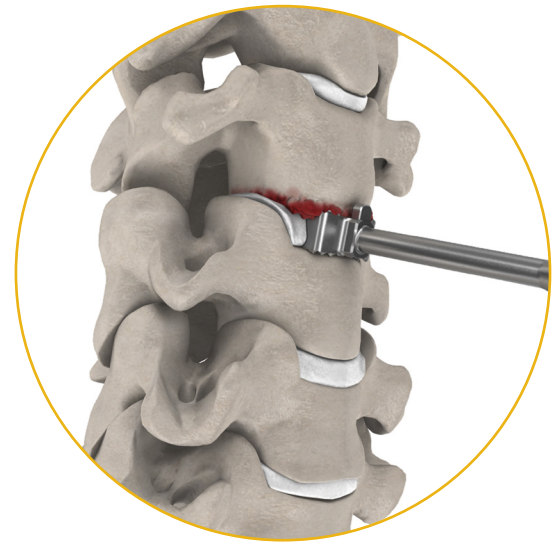

Figure 1
- a. After preparation of the disc space is complete, insert a trial (37-TN-XXXX) to determine the preferred implant footprint and height (Figure 1).